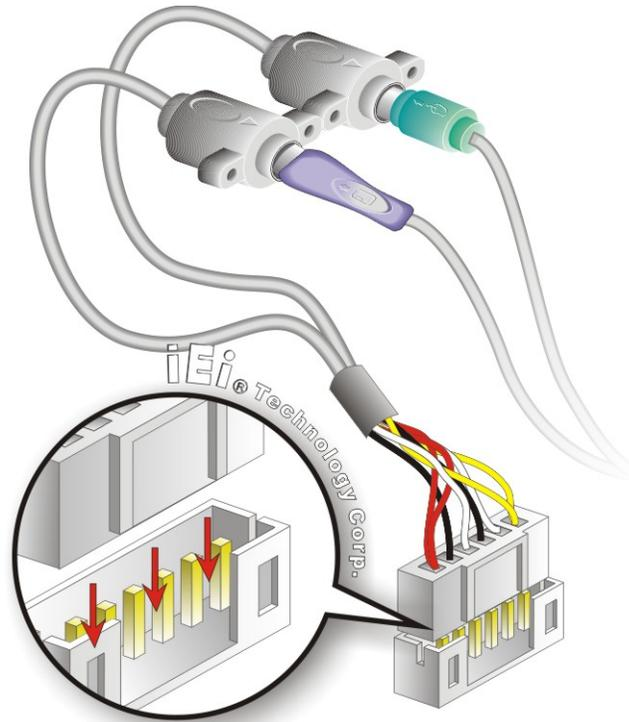

Figure 5-13: Keyboard/mouse Y-cable Connection
- Step 2: Align the connectors.** Correctly align pin 1 on the cable connector with pin 1 on the WAFER-MARK keyboard/mouse connector. See **Figure 5-13**.
Step 3: Insert the cable connectors Once the cable connector is properly aligned with the keyboard/mouse connector on the WAFER-MARK, connect the cable connector to the onboard connectors. See **Figure 5-13**.